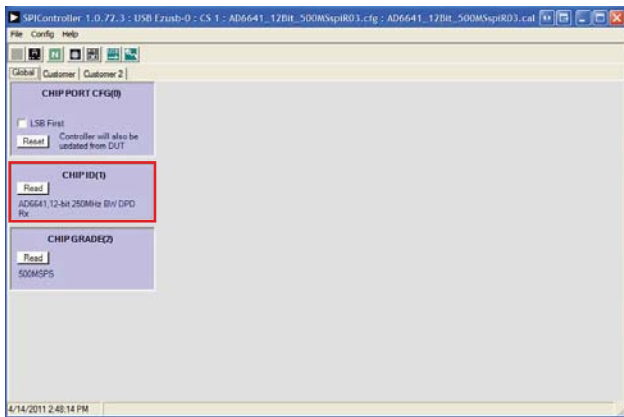

Figure 12. SPI Controller, CHIP ID(1) Box
- Open the SPI controller software by going to the **Start** menu or by double-clicking the **SPIController** software desktop icon. If prompted for a configuration file, select the appropriate one. If not, check the title bar of the window to determine which configuration is loaded. If necessary, choose **Cfg Open** from the **File** menu and select the appropriate file based on your part type. Note that the **CHIP ID(1)** field should be filled to indicate whether the correct SPI controller configuration file is loaded (see Figure 12).